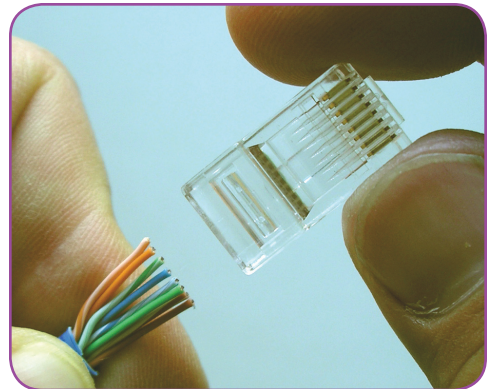

Figure D-8: Sliding on the RJ45 Connector
7. Holding the wires with the white/orange on the left and the brown on the right, slide on the RJ45 connector. Ensure the metal pins are facing up and the locking tab is facing down (see **Figure D-8**).